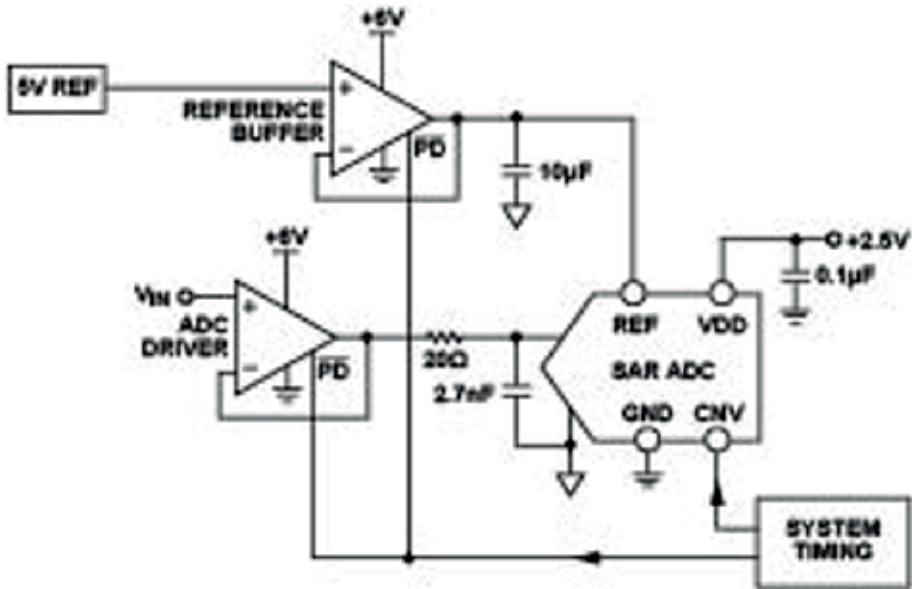
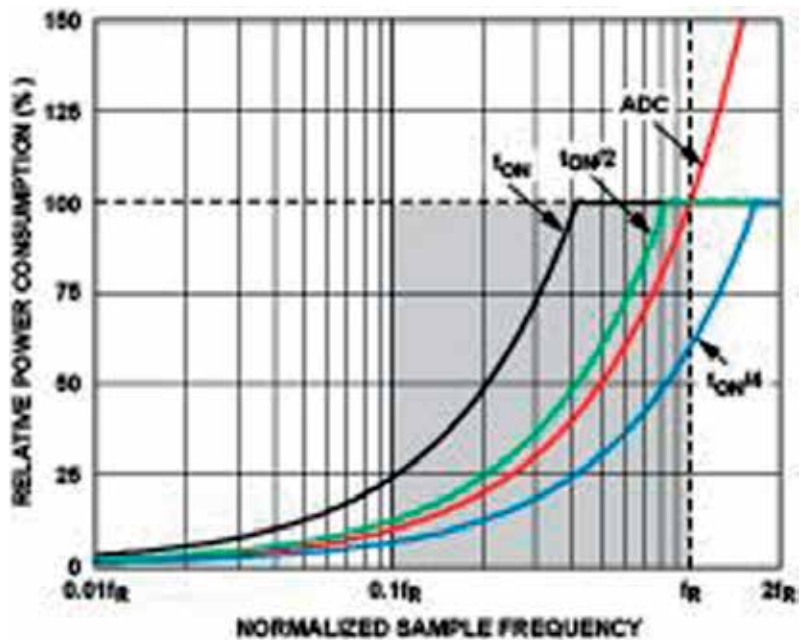
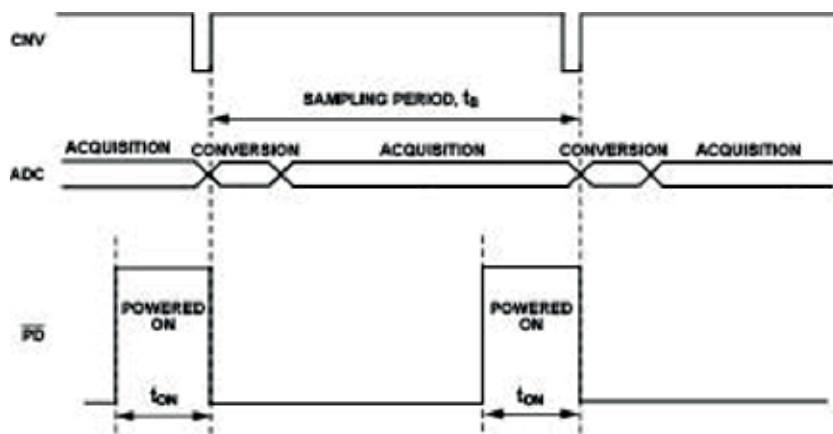

Figure 1. Block Diagram of SAR ADC Based Data Acquisition Sub-system
Figure 2. Theoretical amplifier power consumption for DPS at selected t_{ON} (relative to amplifier constantly enabled)
Figure 3. Simplified Timing Diagram for Amplifier and ADC Control Signals
Simply stated, DPS is the process of dynamically enabling an electronic component when it is needed and disabling it when it is not. Figure 1 shows a typical SAR ADC based data acquisition sub-system. One of the key attributes of the SAR ADC is that its power scales with the throughput rate, making it a very attractive option for power sensitive applications. Historically, the ADC driver and reference buffer have not shared the automatic power scaling enjoyed by the SAR. They are typically powered up and enabled any time the system is running, thus consuming excess
Figure 2 shows the theoretical efficiency improvements in amplifier quiescent power possible through DPS for a typical 16-18-bit amplifier/SAR ADC combination. In this generic example the horizontal reference line at 100% represents the power consumption of the ADC driver amplifier when it is constantly enabled. The vertical reference line at f_R represents the sampling frequency at which the power consumption of the ADC equals that of the constantly enabled driver amplifier.
Figure 3 shows a simplified timing diagram for the ADC and driver amplifier. The system timing block (FPGA, DSP, μ controller, etc.) from Figure 1 provides the properly timed ADC conversion start (CNV) and amplifier power down (PD) signals. The SAR ADC initiates a conversion on the rising edge of CNV. The amplifier is powered on during the ADC acquisition phase for some period of time (t_{ON}) prior to the rising edge of CNV, and is then powered down synchronous with the rising edge of CNV. But what is the correct period of time for t_{ON} ? While Figure 2 illustrates the concept using somewhat arbitrary times for t_{ON} it clearly shows that the full value in DPS will be realized only
when the minimum t_{ON} is used. This is the minimum time for which the amplifier must be enabled prior to the ADC conversion to ensure an accurate result. Any time shorter than this will result in erosion of SNR or THD while any time longer will not result in any performance improvements. In practice the minimum t_{ON} is not constant across sample rates and must be empirically determined for the unique application. The minimum t_{ON} will vary from amplifier to amplifier and system to system. For example, using an amplifier/ADC combination of the ADA4805-1 and AD7980 in the circuit of Figure 1, the minimum t_{ON} decreases with increasing sample rate, typically requiring ~ 4 μ s at 1 kps and only ~ 600 ns at 1 Mps. At low sample rates the long period provides more time for internal amplifier nodes to discharge due to an extended time in the power down state, resulting in longer turn-on time. Conversely, the shorter period of higher sample rates doesn't allow for as much internal discharging. In fact, as sample rate increases the finite turn-off time of the amplifier will become longer than the time spent in the power down state. In effect, the amplifier is turning back